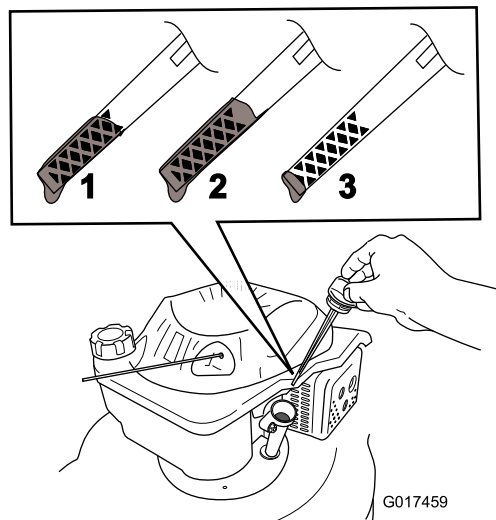

Figure 6
- Remove the dipstick (Figure 6) and pour about 3/4 of the crankcase capacity of oil into the oil-fill tube.
- Remove the dipstick and read the oil level on the dipstick (Figure 6).